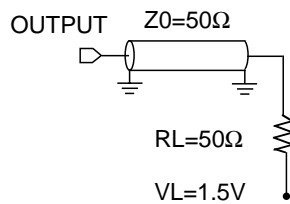
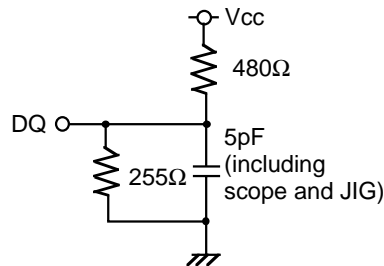

Fig.1 Output load
Fig.2 Output load for t_{en} , t_{dis}
Output loads Fig1, Fig2
5. Transition is measured $\pm 500\text{mV}$ from steady state voltage with specified loading in Figure 2.